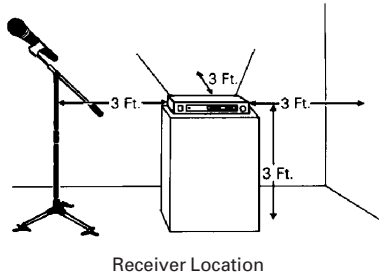

Figure B1-Antenna Position
### Antenna Position (Fig. B1)
1. ANTENNAS: Position the antennas as shown in Figure B1.